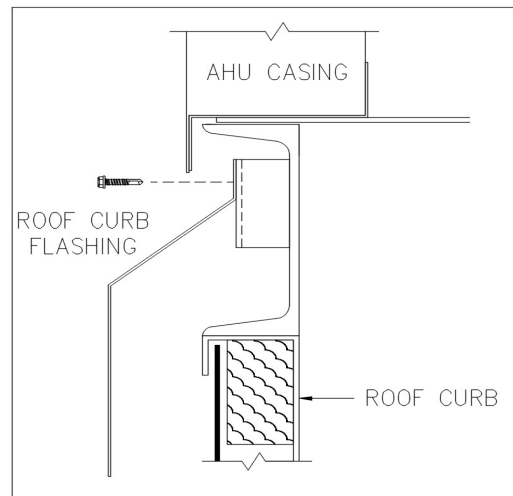

Figure 20: Roof Curb Flashing Cross-Section
- 8) Figure 20 illustrates roof curb flashing. Reference the ship loose (SL) drawings for the installation details
For outdoor units, flashing (or skirt), similar to Figure 20, will need to be installed around the top deck unit base. See SL drawings for more details.